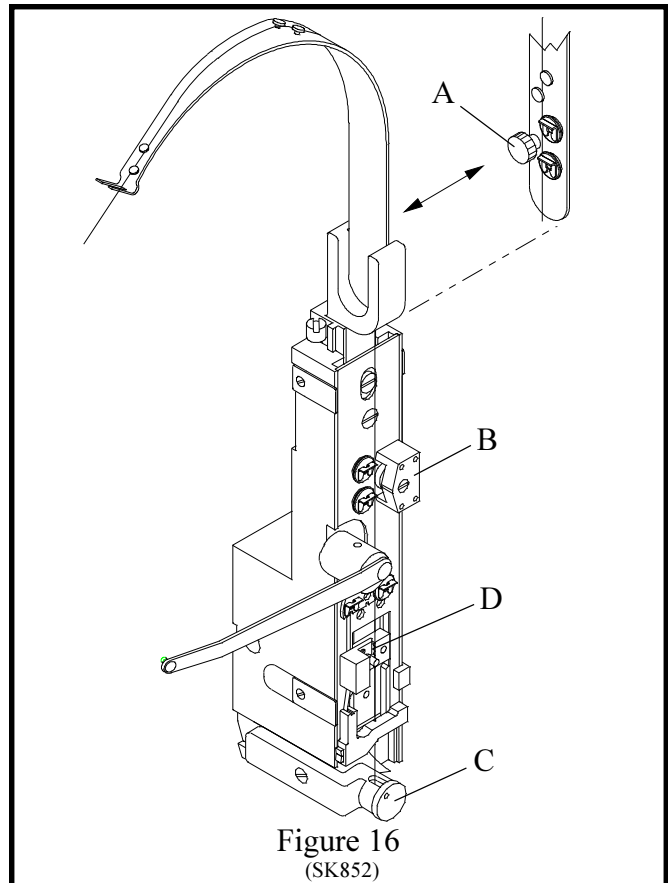

Figure 16
N. Wire Straighteners: (Figure 16)
the wire points straight down as in figure 16. Improper straightening of the wire can also cause the stitch legs to buckle or turn out because they strike the clincher improperly. Excessive tension on the wire straightener prevents the grip (Index D) from feeding the wire smoothly. This causes variation in leg length.